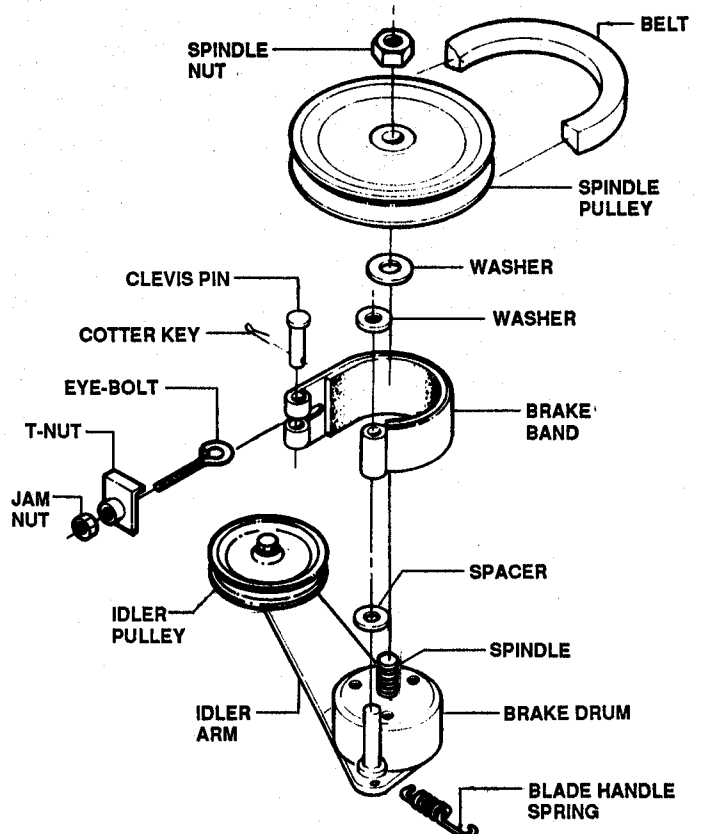

FIGURE 3.6
- C. Remove jam-nut and spindle pulley. See Figure 3.6.